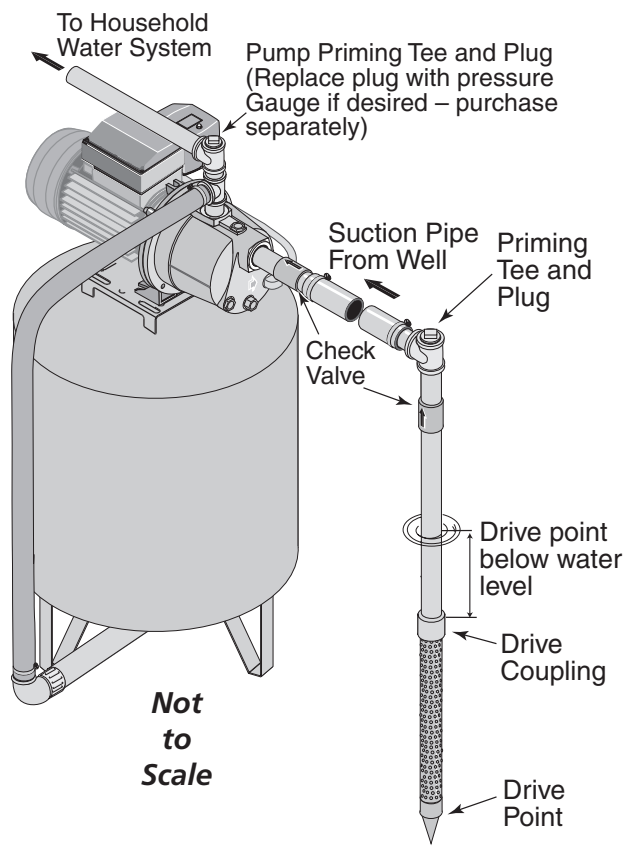

Figure 1 – Driven Point Installation
WELL POINT (DRIVEN POINT) INSTALLATION (FIGURE 1)
3. Use the fewest possible fittings (especially elbows) when connecting the pipe from the well point to the pump suction port. The suction pipe should be at least as large as the suction port on the pump (include a check valve as close to the well as possible - see Figure 1). Support the pipe so that there are no dips or sags in the pipe, so it doesn't strain the pump body, and so that it slopes slightly upward from the well to the pump (high spots can cause air pockets which can air lock the pump). Seal the suction pipe joints with teflon tape. Joints must be air- and water-tight. ***If the suction pipe can suck air, the pump cannot pull water from the well.*** If one well point does not supply enough water, consider connecting two or three well points to one suction pipe.